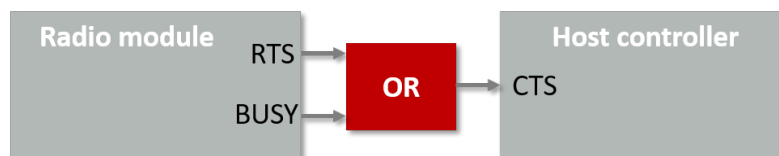

Figure 12: Transparent mode flow control
- **Flow control:** The Thyone-I implements additional *BUSY* pin to indicate that the module is busy doing radio tasks and hence cannot accept any more data on the UART. It is mandatory to implement the Thyone-I *BUSY* pin and enable the UART flow control on the host and Thyone-I in order to prevent data loss on the UART (Figure 12). In the absence of this flow control scheme, the application must be able to accept/handle loss of data.